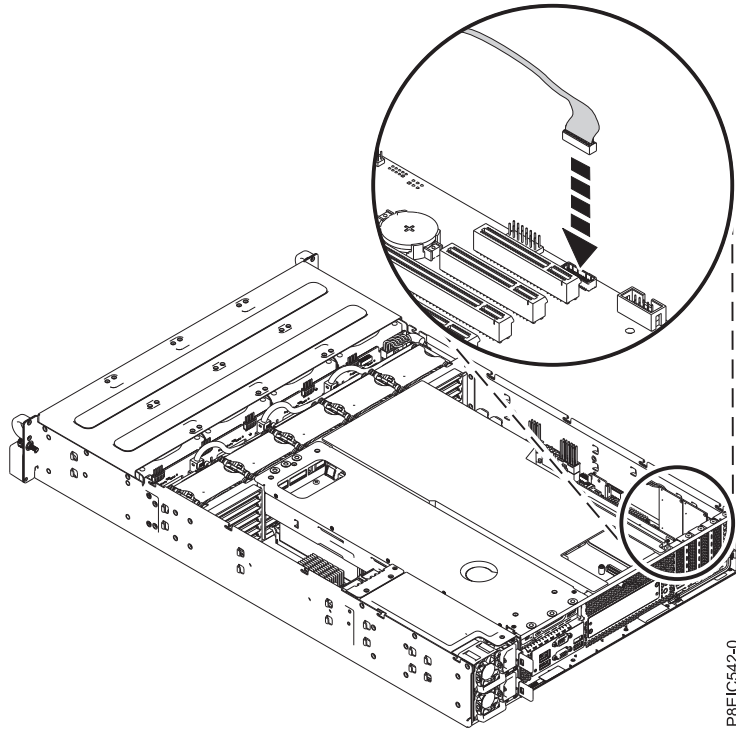

Figure 112. Connecting the front USB cable
8. Replace the front USB signal cable in the system backplane, as shown in Figure 112 on page 99.